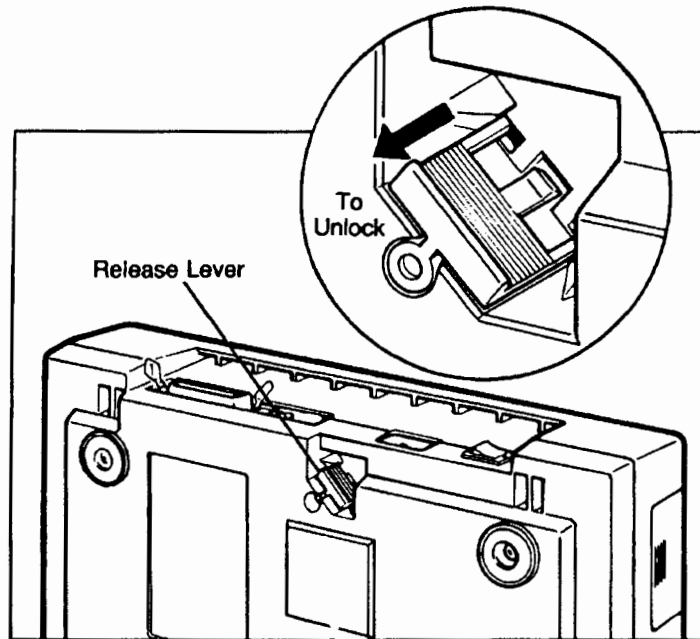

Figure 1-1. Unlocking the ScanJet Plus Scanner
3. Slide the release lever out from the scanner until the bottom of the release lever is even with the scanner body and clicks into place. See figure 1-1.